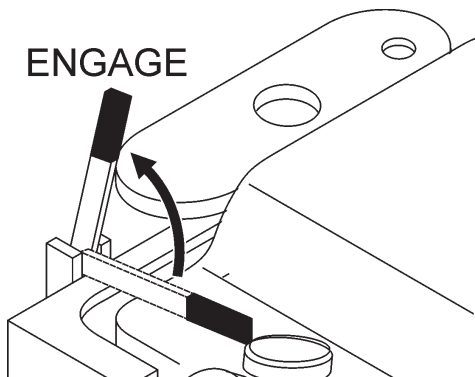

Figure 39. Transmission Engage/Disengage Lever (Engage Position)
- Lift the **transmission engage/disengage lever**, located on the console (Figure 39). Leaving the lever down disengages the transmission to allow for manual pushing during cutting or moving the machine around the job site.